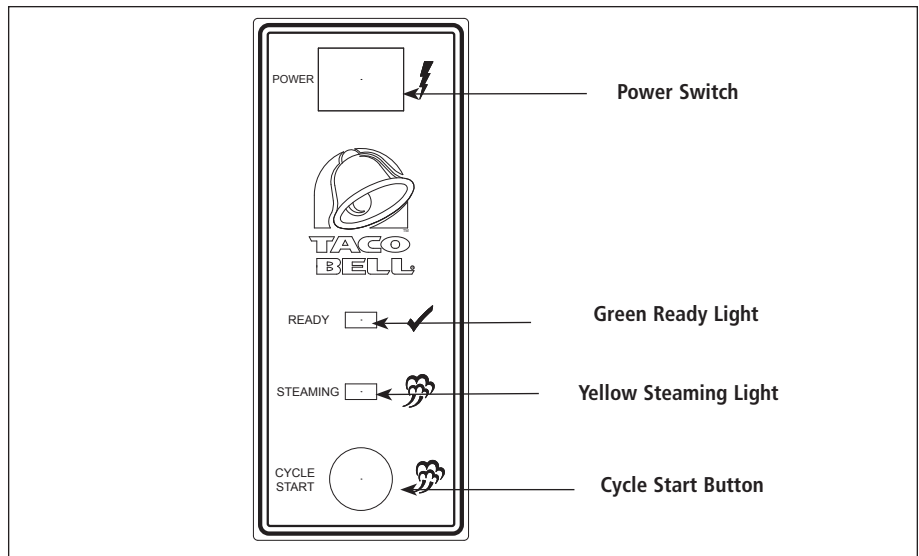

Figure 6. TBS-1X Operating Controls
1. Turn the power on and allow the unit to preheat for approximately 20-30 minutes (Figure 6).
NOTE: The Green Ready Light (Figure 6) will flash during warm-up. The flashing light will become steady when the unit is up to temperature. If the Green Ready Light continues to flash after warm-up, or starts to flash during operation, see the Troubleshooting section in this manual.